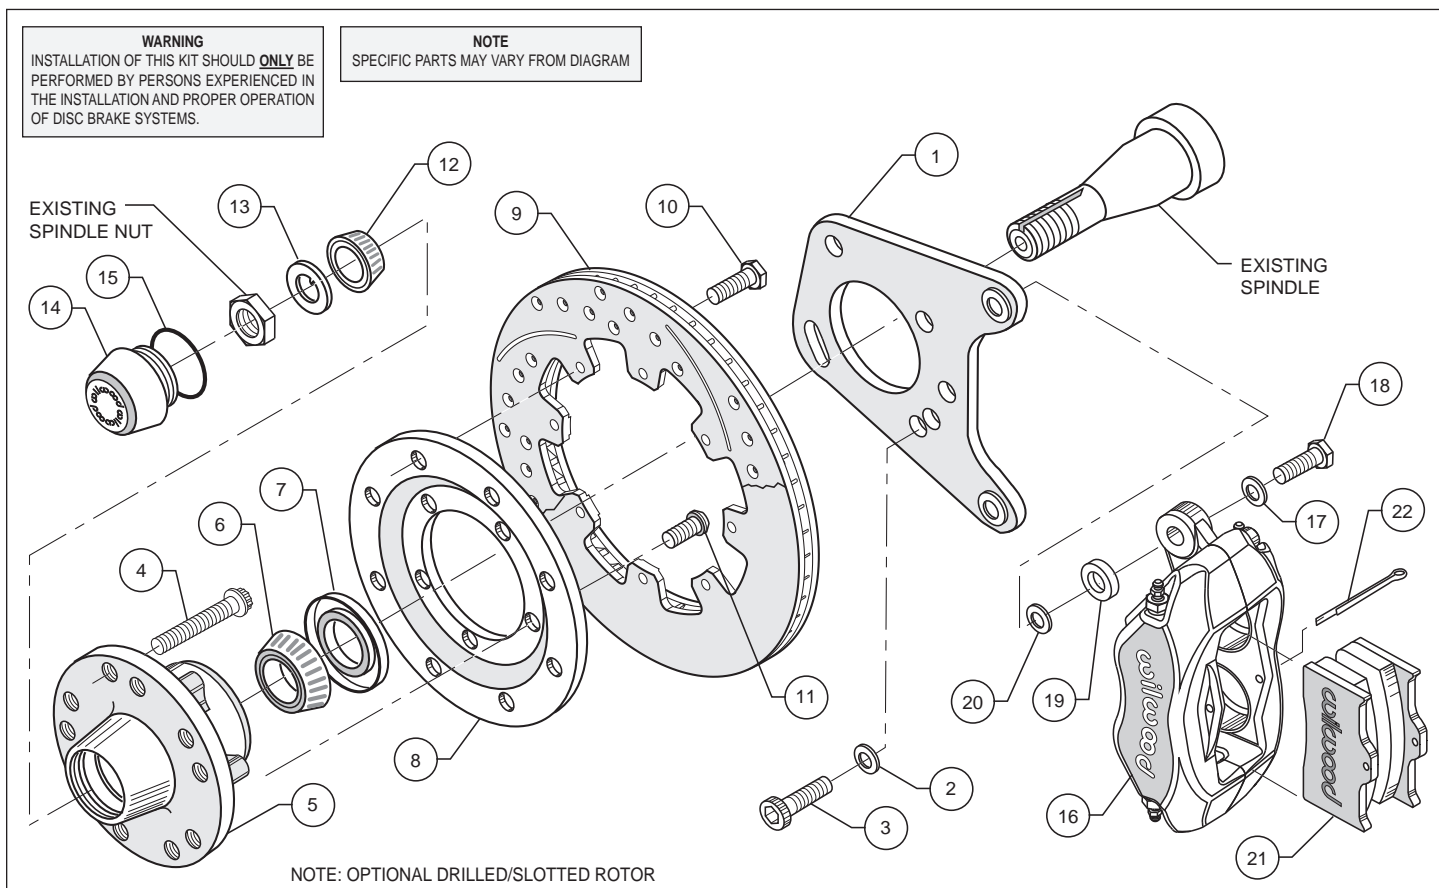
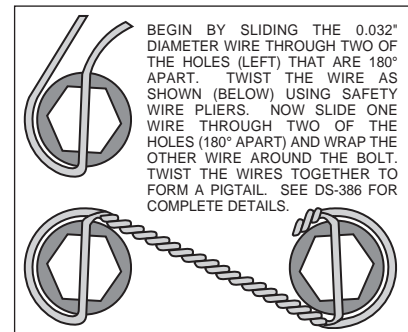
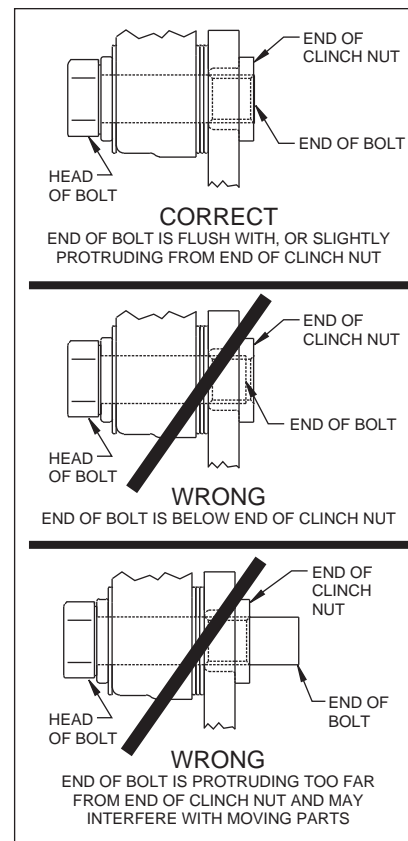

Figure 1. Typical Installation Configuration
Figure 3. Safety Wire Diagram
Figure 4.
•Position the caliper mounting bracket (1) on the spindle. **NOTE:** Be sure the heads of the caliper bracket (1) insert nuts are facing outward toward the wheel. Place one washer (2) on each of the three caliper bracket bolts (3). Mount bracket to the dust plate face of the spindle and align the three 3/8-16 holes in the spindle with the corresponding holes in the bracket (1). Apply red *Loctite*® 271 to all three bolt threads (3) and install. Torque bolts (3) to 22 ft-lb.
•Install wheel studs (4) into the hub (5). Torque to 77 ft-lb. **NOTE:** There are two lug patterns of five holes each in the hub (5 x 4.50 and 5 x 4.75). Make sure of the correct hole pattern for the wheel application before installing the studs into the hub.
•Attach rotor adapter plate (8) to rotor (9) using bolts (10). **NOTE:** Dished side of adapter plate (8) should face hub (5). The mounting tabs on the rotor (9) should face toward the hub as well and line up with the holes on the adapter plate (8), Figure 1. Using an alternating sequence, apply red *Loctite*® 271 to the threads and torque bolts to 25 ft-lb. For an added measure of security, the bolts may be safety wired using standard 0.032 inch diameter stainless steel safety wire as shown in Figure 3. Please refer to Wilwood's data sheet DS-386 (available at www.wilwood.com/Pdf/DataSheets/ds386.pdf) for complete safety wire installation instructions.
•Mount the adapter/rotor assembly (8/9) to the hub (5) using bolts (11), as shown in Figure 1. Using an alternating sequence, apply red *Loctite*® 271 to the threads, and torque to 55 ft-lb.
•Pack the large inner bearing cone (6) with high temperature disc brake bearing grease (available from your local auto parts store) and install into the backside of the hub (5).
•Install the grease seal (7) by pressing into the backside of the hub (5).
•Pack the small outer bearing cone (12) with high temperature disc brake bearing grease and install into front of hub (5). Slide the hub assembly (5, 6, 7 and 9) with outer bearing cone (12) onto the spindle. Secure using spindle washer (13), stock adjusting nut and nut locking device. Adjust bearings per Original Equipment Manufacturer (OEM) specifications.
•Install the o-ring (15) and the dust cap (14) onto the hub (5). Friction created by the o-ring (15) on the dust cap (14) keeps it from unscrewing on its own.
•**NOTE:** Please reference the caution statement at the beginning of the assembly instructions. Mount the caliper (16) onto the caliper bracket (1) using washers (17), bolts (18) and caliper spacer (19). Finger tighten. View the rotor (9) through the top opening of the caliper (16). The rotor (9) should be aligned in the center of the caliper (16). If not, adjust the caliper (16) by using 0.032 inch thick shims (20) placed between the caliper mounting bracket (1) and the caliper spacer (19). Finger tighten and recheck alignment. Add as many shim washers (20) as necessary to achieve the correct alignment. **NOTE:** The end of the bolt must be flush with or slightly protruding from the head of the clinch nut. See Figure 4. Place spare shims (20) between washer and caliper mounting ear to achieve the proper mounting fastener configuration. Always use the same amount of shims on both the top and bottom caliper mounting bolts (18). Apply red *Loctite*® 271 to bolt threads (18) and torque to 40 ft-lb. Caliper mount bolts may be safety wired for additional security.
•Install the disc brake pads (21) and secure using cotter pin (22).